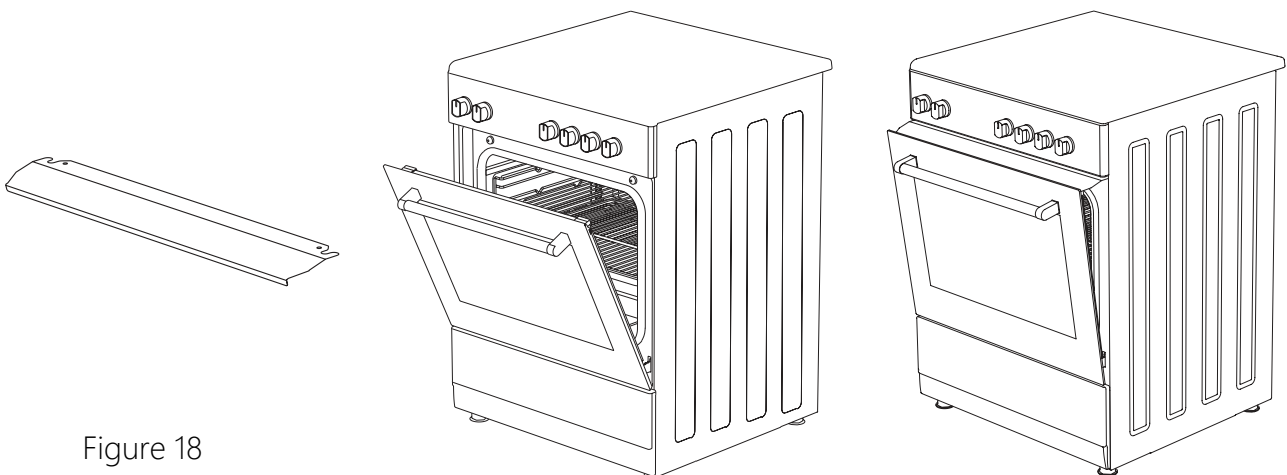

Figure 18
- When using the upper burner in the gas ovens, the oven door must be kept open as shown in the Figure 18. This grill sheet will protect the knobs and control panel.